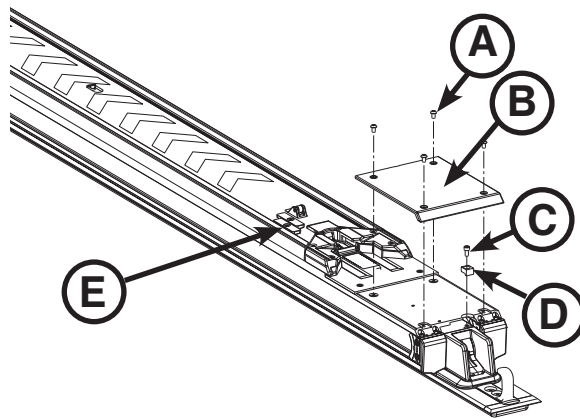

Figure 58
3. Using a T25 Torx driver, remove the four screws (A) that secure the foot end transfer wear pad (B) to the transfer extrusion to remove the foot end transfer wear pad (Figure 58).
4. Using a 5/32" hex wrench, remove the screw (C) that secures the trolley magnet activator (D) to the anchor extrusion to remove the trolley magnet activator (Figure 58).
5. Slide both transfer lock triggers (E) to extend and pull the transfer off of the anchor completely (Figure 58).